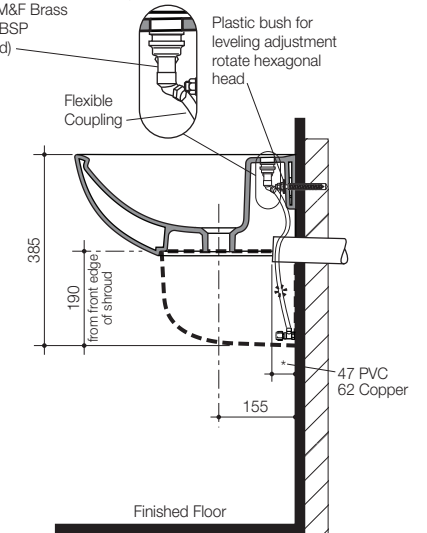
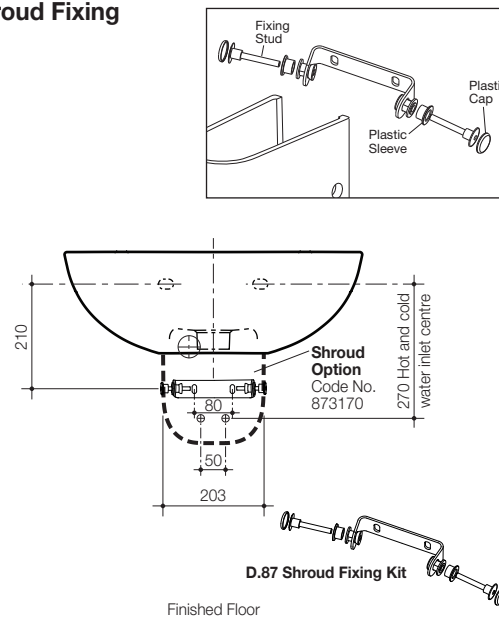

Fig. 2
Fig. 3
- 1- Fix the Concealed Fixing Bracket (supplied) to the wall, as detailed in **Fig. 3**.
- 2- Ensure basin is secured and plumbing is connected. Water inlet connections must be positioned as shown in **Fig. 3**. The brass elbow shown in **Fig. 2** to be used only on 3 tap hole basin (not supplied).